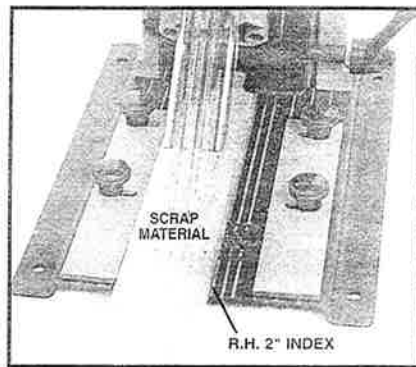

Fig. 9
6. Loosen the work clamp and move the scrap material to align its RIGHT edge with the RIGHT rib index (see Fig. 9).